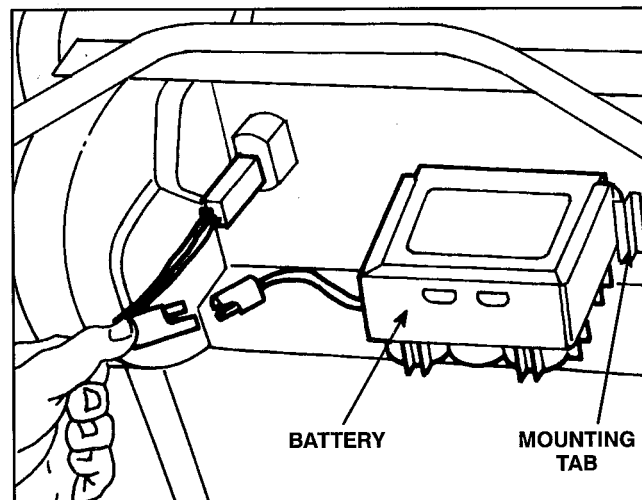

Figure 3
1. CHARGE BATTERY—Refer to Charging Battery, page 15. Slide battery, decal side up, between mounting tabs on back of control panel and connect wires (Fig. 3). Insert key into switch when ready to start engine.